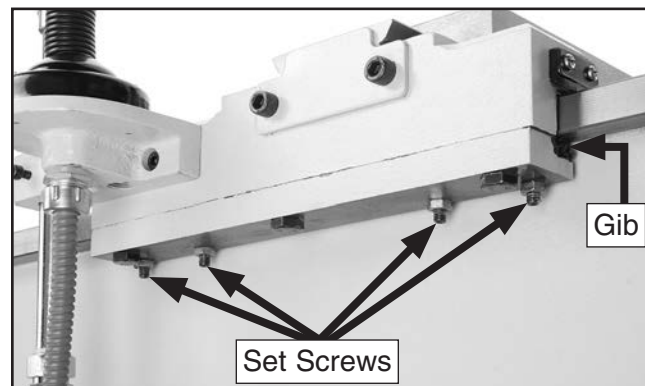

Figure 127. Typical saddle gib components.
The saddle gib is located on the bottom of the back edge of the slide (see **Figure 127**). This gib is designed differently than the cross or compound slide gibs. Instead of being a wedge-shaped plate, it is a flat bar. The gib pressure is applied by four set screws. Hex nuts secure these set screws in place, so they will not loosen during operation.
4. Loosen hex nuts on four set screws shown in **Figure 127**, and adjust set screws as follows: